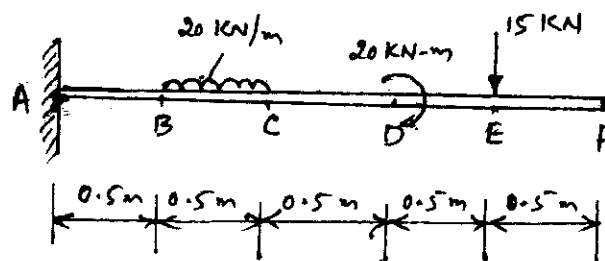

Fig.Q.5(c)
- c. Draw the shear force and bending moment diagrams for the cantilever shown in Fig.Q.5(c). (08 Marks)